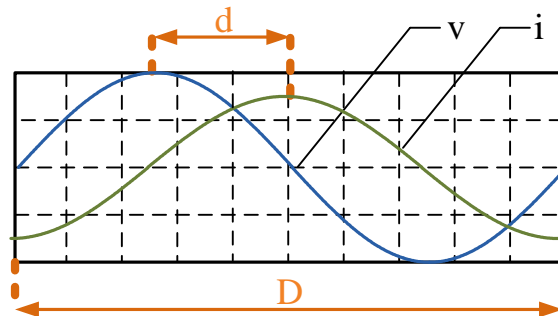

Figure 4-7: Output waveforms.
3. Switch the Vertical Mode to channel 1; this will be the reference signal channel. Adjust scope (Volts/Div. Button) and output level of the generator until a single stationary sine wave is displayed on the screen for the entire width. Center the waveform. (See Figure 4-7)
5. Measure the horizontal distance D (in divisions, see Figure 4-7) for the voltage sine wave labeled v . Record the value in Graph 4-1. This is the period of the waveform.
6. Measure the horizontal distance d (in divisions, see Figure 4-7) between the two positive (or negative) peaks of the sine waves. Record the value in Graph 4-1. This is the phase difference between the two waveforms.
7. With reference to Figure 4-7, the phase shift θ (in degrees) is given by